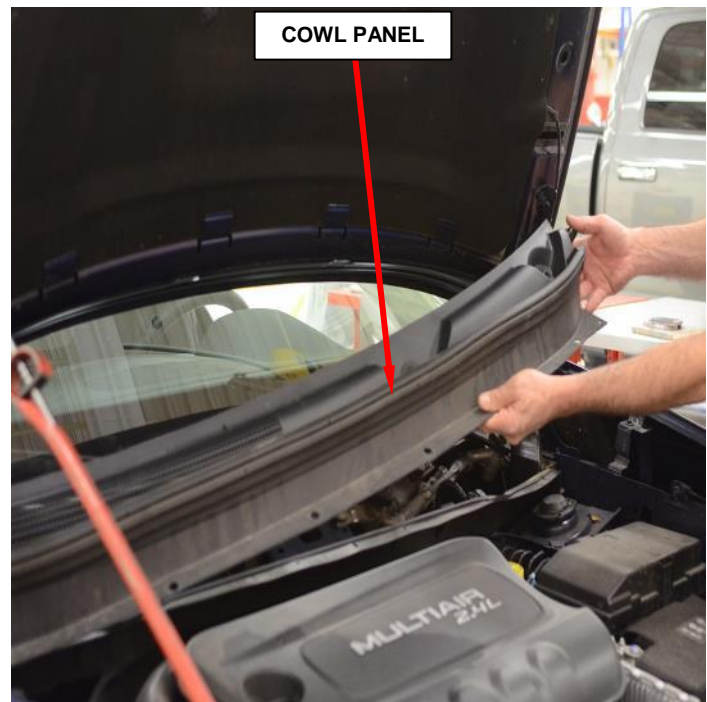

Figure 4 – Cowl Panel
- b. Starting at the driver's side pull up on the back edge of the cowl panel and work cross car to release the tab from the backside of the cowl panel from the groove in the lower windshield channel (Figure 4).
- c. Remove the cowl panel cover from vehicle (Figure 4).